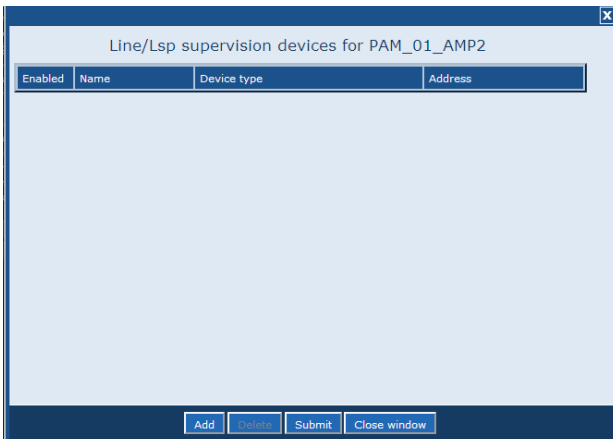

figure 43.15: Add supervision device, step 1
- 1 Click the *Configure supervision devices* button in the *Audio Outputs* category of the applicable power amplifier (see section 43.3.4). A screen similar to the one figure 43.15 appears.